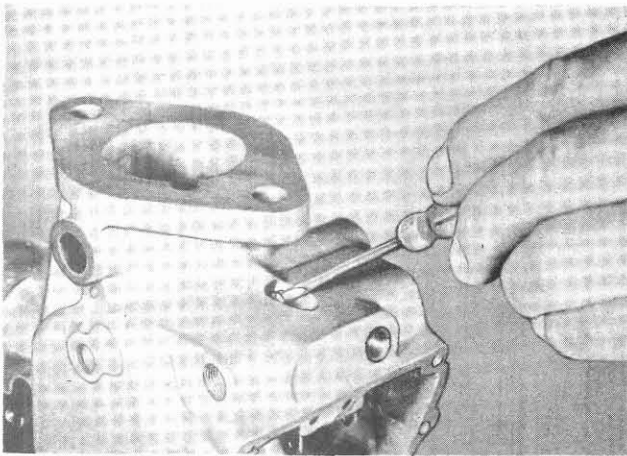

Figure 2-16. Preliminary Adjustment of Idle Needle
c. Rotate the idle needle until it seats lightly and back it out 1-1/2 turns. (See figure 2-16.)